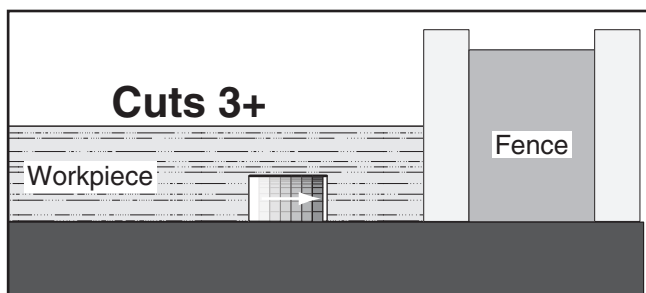

Figure 49. Additional single-blade dado cuts.
- Make additional cuts (see **Figure 49**) in center of dado to clear out necessary material. Dado is complete when channel is completely cleared out.